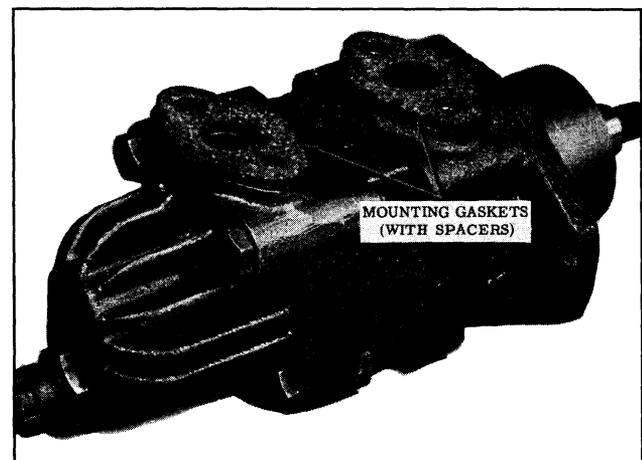

Fig. 5-85 Mounting Gaskets
17. Position reservoir mounting gaskets (with spacers) on the pump assembly. (See Fig. 5-85)